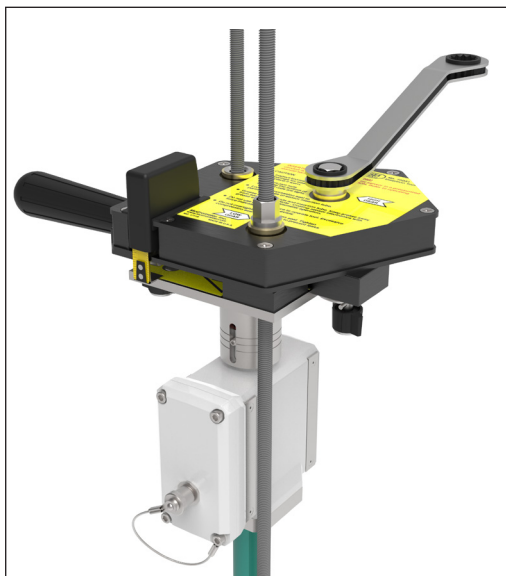

Figure 21. Inserting the sensor with the insertion tool
6. Using the provided wrench rotate the high gear shaft clockwise. (Figure 21)